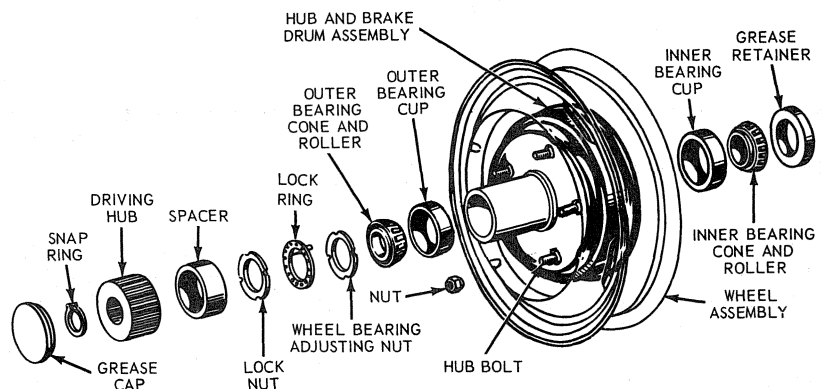

FIG. 2—Front Wheel and Hub Installation
cant from leaking into the drum. The entire assembly is retained to the spindle by the adjusting nut, lock ring, and a lock nut (Fig. 2).
3. Remove the front hub grease cap. Remove the driving hub retaining snap ring and slide the splined driving hub from between the axle shaft and the wheel hub (Fig. 2). Remove the driving hub spacer. (If equipped with free-running lock-out hubs, refer to Front Wheel Drive Lock-Out Hub Removal in Group 4.)
5. Using Tool T59T-1197-B and a torque wrench, tighten the bearing adjusting nut (Fig. 2) to 50 ft-lb, while rotating the wheel back and forth to seat the bearings.